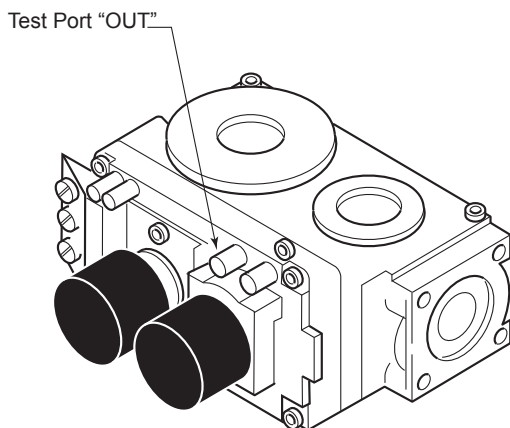

Figure 4.2 - Pressure Test Point Location Millivolt Control
- Valve pressure taps are accessible by removing the right side log. See Figure 4.2.
Turn captured screw counter clockwise two or three turns and then place tubing to pressure gauge over test point (use test point "OUT" closest to control knob). After taking pressure reading, be sure and turn captured screw clockwise firmly to re-seal. Do not over torque. Check for gas leaks. See Figure 4.2.